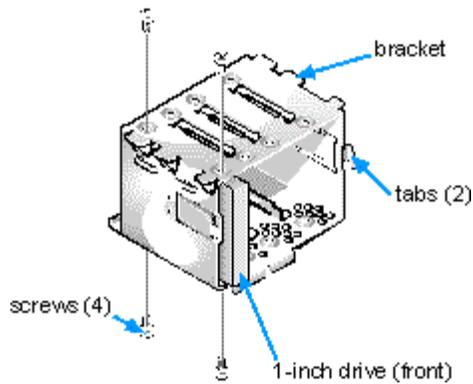

Figure 10-11. Inserting a 1-Inch Hard-Disk Drive Into the Bracket
7. Slide the drive into the chosen bay of the bracket, orienting it so that the connectors on the back of the drive face the inside of the chassis when the bracket is reinstalled (see Figure 10-11).
Use the four screw holes in the top and bottom of the bracket (see Figure 10-11) to secure the installed hard-disk drive(s).